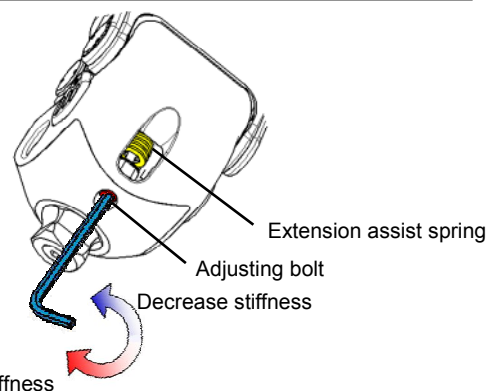

Fig. 10 How to Adjust the Extension Assist Spring
- Adjust the adjusting bolt shown in Fig. 10 with a 2.5 mm hexagonal wrench.